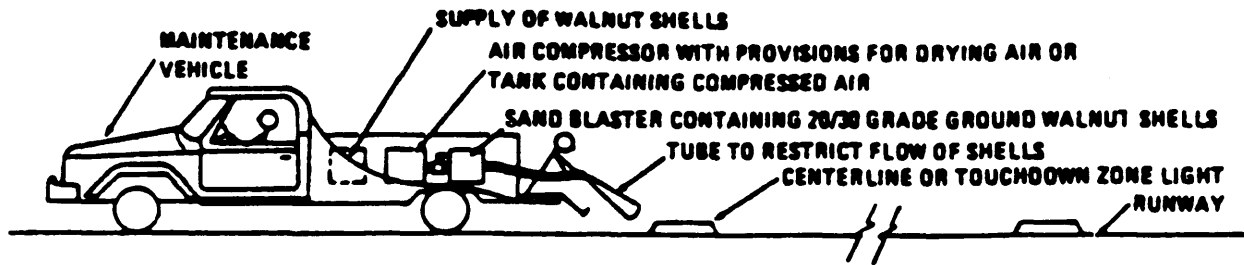

Figure 2-1. Cleaning Centerline and Touchdown Zone Lights.
(1) Use commercially available cleaning detergents and pads to manually remove deposits from the lighting fixture lens, unless prohibited by the manufacturer. Do not use abrasive materials such as sandpaper or emery cloth as they will scratch the glass. Solvents are available that will clean the lens. Make sure the solvent used is compatible with the lens sealing material. While manual techniques are well suited for bench cleaning of lights, they are very time-consuming for cleaning lights when installed in pavement.
(2) Clean the light fixture using 20/30 grade, clean, ground walnut or pecan shells, and clean, dry compressed air or nitrogen (nozzle pressure 85 psi), unless prohibited by the manufacturer. Figure 2-1 shows a typical example of how to clean the lighting fixture with shells. It also shows a worker operating the nozzle sitting on the vehicle tail gate with feet hanging. Personnel must not be in this position while vehicle is in motion.